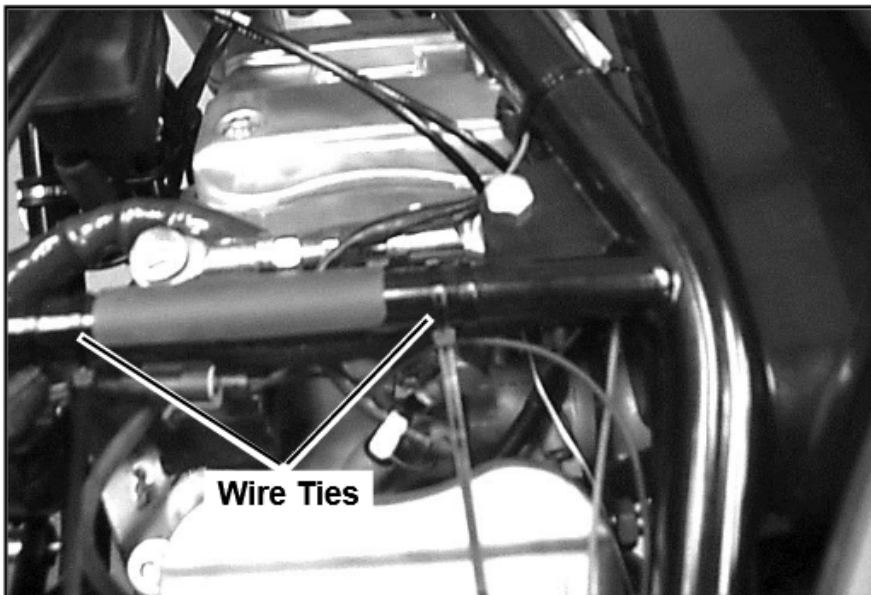

**Figure 8. Connect Harness to Fan**
16. See Figure 8. Connect the two-pin male AMP connector from the harness to the Female AMP connector coming from the fan.